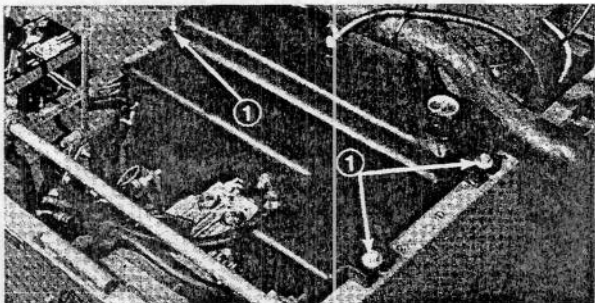

Figure 74
5. Remove capscrews, lockwashers and flatwashers securing fuel tank to top of frame (Fig. 74). However, do not lift fuel tank out of chassis at this time.
1. Set fuel tank into position and secure it in place with capscrews, lockwashers and flatwashers (Fig. 74).